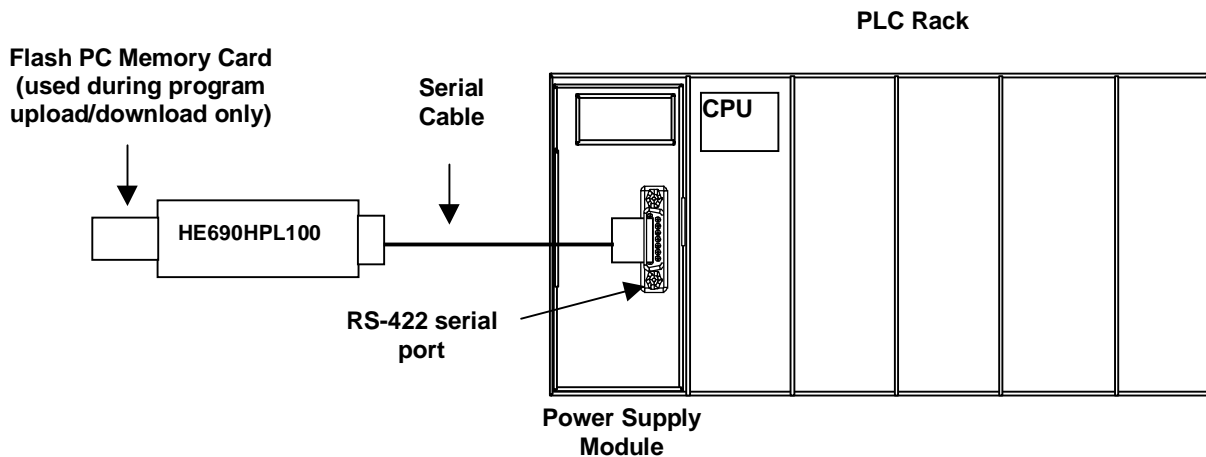

Figure 1.2 – Overview of HE690HPL100
1.2.2 Program Upload/Download (See Figure 1.2)